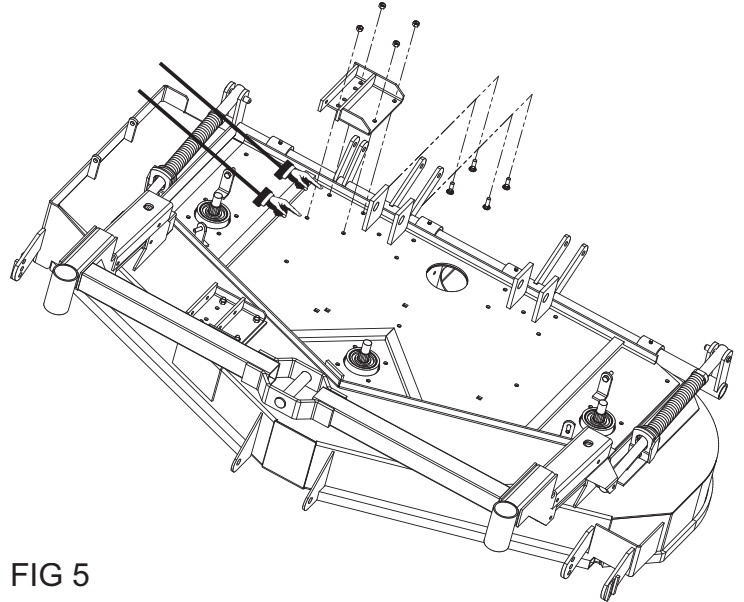

FIG 5
- C. Mount the rear lift mount (592078) to the back of the deck as shown in Fig. 5. Two holes already exist in the deck. Two more holes will have to be drilled using the existing holes in the sub-plate as a guide as shown in Fig. 5.